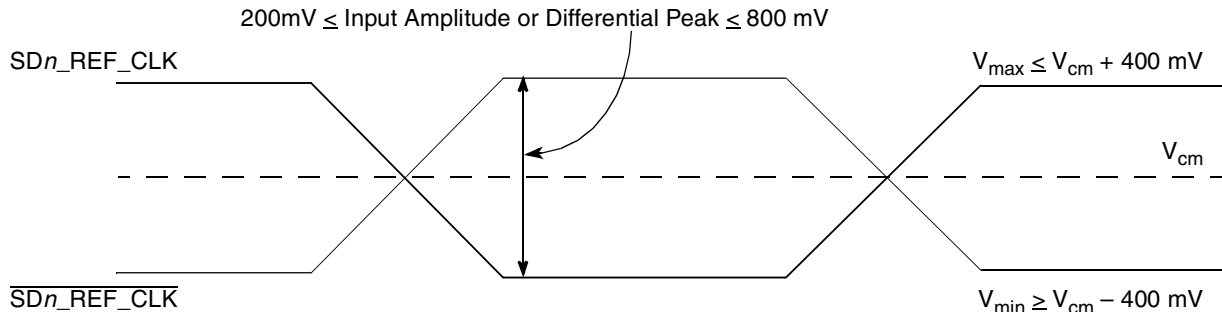

Figure 32. Differential Reference Clock Input DC Requirements (External AC-Coupled)
- For external AC-coupled connection, there is no common mode voltage requirement for the clock driver. Since the external AC-coupling capacitor blocks the DC level, the clock driver and the SerDes reference clock receiver operate in different command mode voltages. The SerDes reference clock receiver in this connection scheme has its common mode voltage set to SGND. Each signal wire of the differential inputs is allowed to swing below and above the command mode voltage (SGND). Figure 32 shows the SerDes reference clock input requirement for AC-coupled connection scheme.